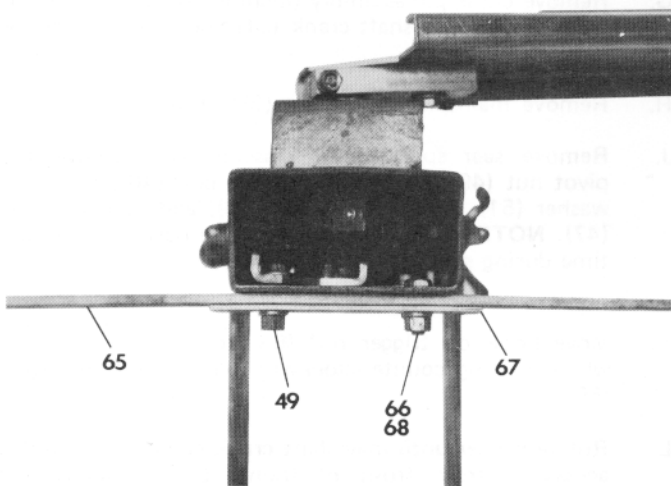

Fig. 1
- A. Unscrew and remove sear pivot nut (49). Assemble front ring support (65) and brace (67) to frame with front ring support bolt (66), and nut (68). Replace and tighten sear pivot nut (see Fig. 1).